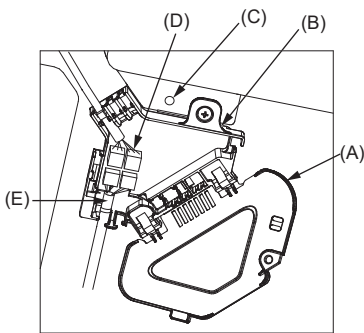

Fig. 10-8
- (1) Remove the one screw securing the connector box cover, and then open the cover.
- (2) Securely connect the junction wire connector of the vane motor and the panel vane motor wire connector in the connector box. (Fig. 10-8)